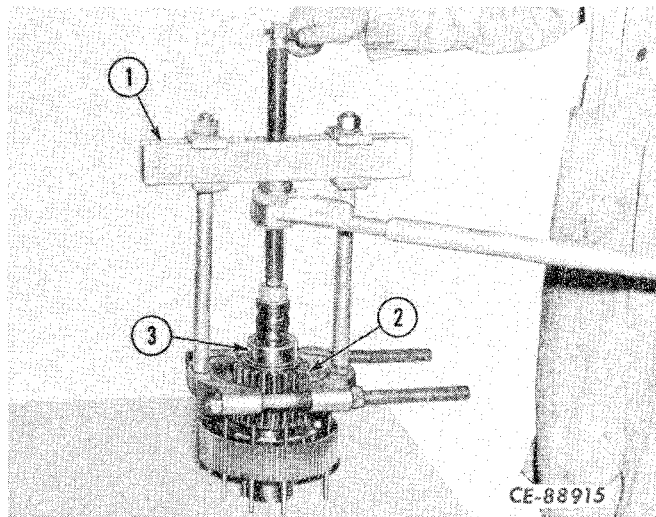

Figure 4-118
Using a bearing puller (1, Fig. 4-118) under the 3rd speed drive gear (2). Remove the bearing race (3).